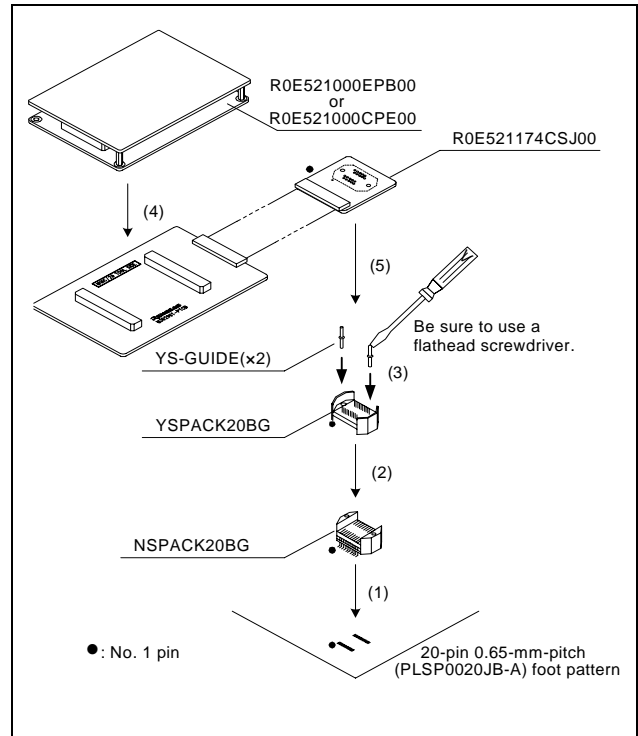

Figure 3 Connection procedure of the R0E521174CSJ00
5. Connection Procedure (See Figure 3)